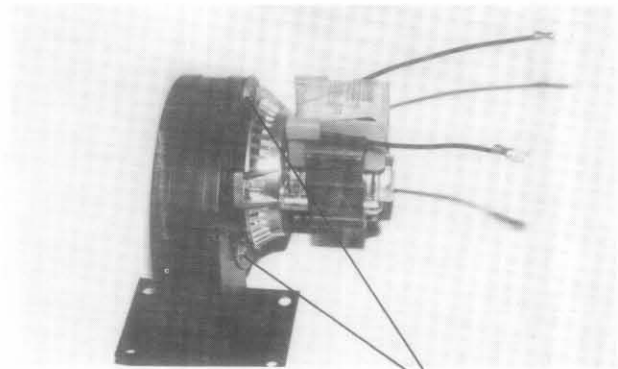

Figure 5
4. Remove 3 lock nuts from blower motor mounting plate. (See Figure 5.)